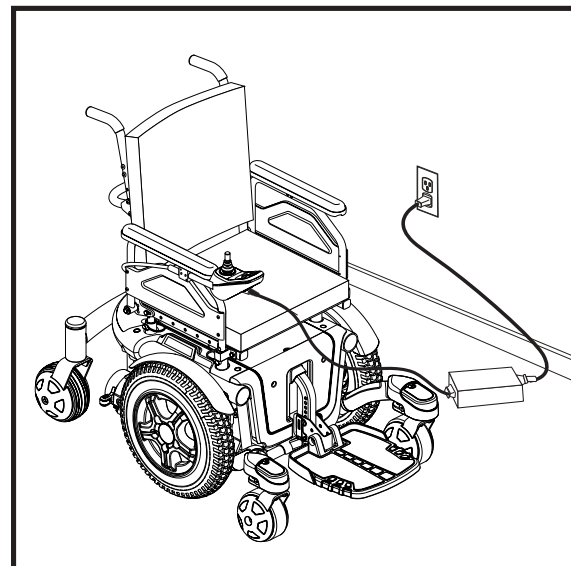

Figure 19. Battery Charging
1. Position the front of your power chair next to a standard electrical outlet. See figure 19.